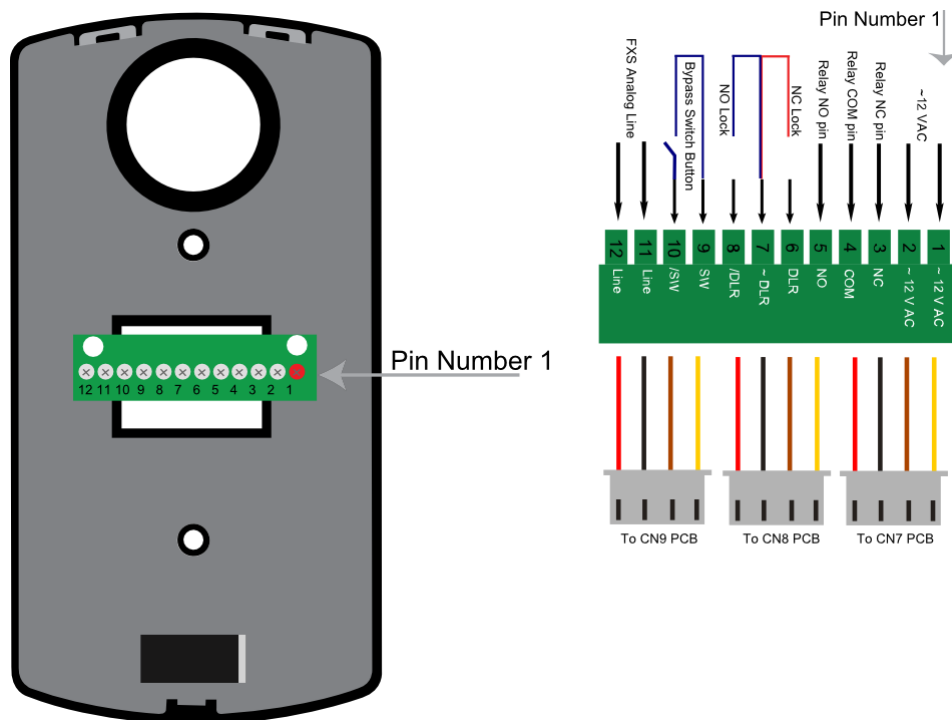

Figure 6-4 SD-30X Model External interfaces connector
- Connections to peripheral interfaces See Figure 6-4